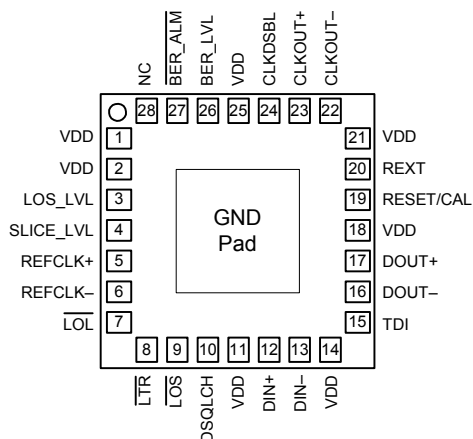
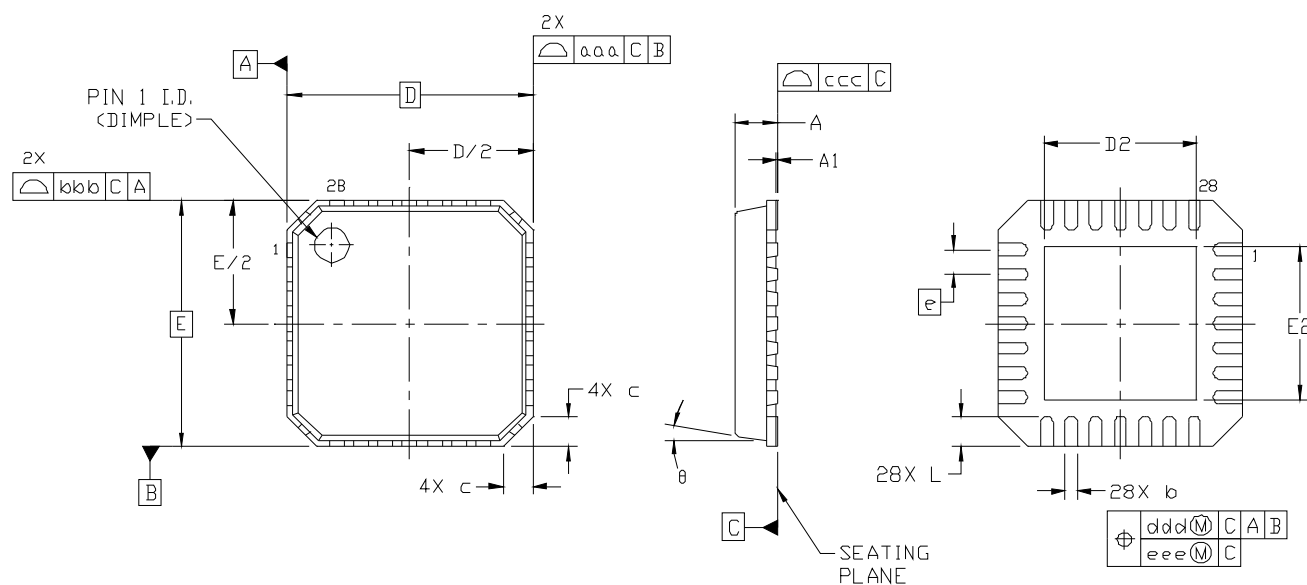

Figure 15. Si5017 Pin Configuration
Figure 16. 28-Lead Quad Flat No-Lead (QFN)
The Si5017 uses the GND pad on the bottom of the 28-pin micro leaded package (QFN) for device ground. This pad should be connected directly to the analog supply ground. See Figure 15 on page 19 and Figure 16 on page 23 for the ground (GND) pad location.
Figure 16 illustrates the package details for the Si5017. Table 9 lists the values for the dimensions shown in the illustration. For a pad layout recommendation please contact Silicon Laboratories.
- Updated Figure 16, “28-Lead Quad Flat No-Lead (QFN),” on page 23.